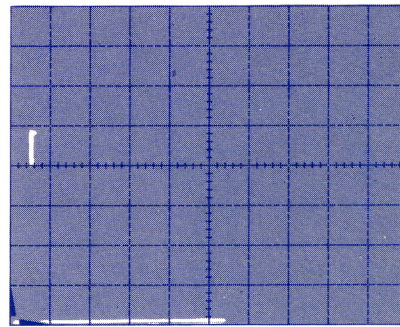

Figure 2-1. Returning spot to center of screen.
- a) Rotate VARIABLE COLLECTOR % control cw to maximum. If spot moves beyond middle of screen vertically, reduce VARIABLE COLLECTOR % until spot returns to center graticule line. See Figure 2-1. **8**